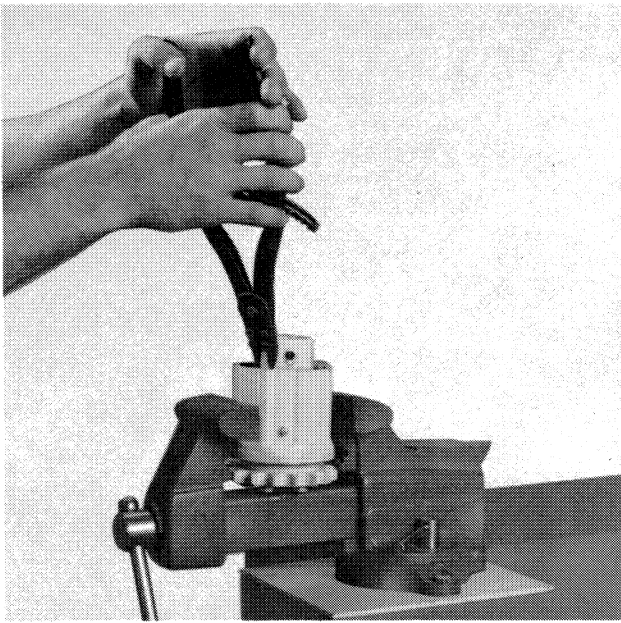

Figure 2-13
1. Remove the retaining ring as shown in Figure 2-13.